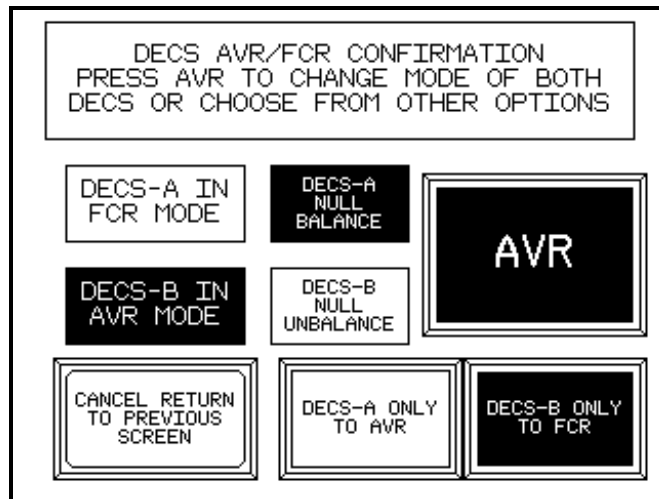

Figure 3-8. DECS AVR/FCR Confirmation Screen
**AVR/FCR TOGGLE.** Pressing this button displays the DECS AVR/FCR Confirmation screen (Figure 3-8), which is described in the paragraphs under *DECS AVR/FCR Confirmation Screen*.
This screen (Figure 3-8) indicates the AVR/FCR mode status of each DECS-200, the null balance/imbalance status of each DECS-200, and requires the user to confirm an AVR/FCR mode change before the change is implemented.